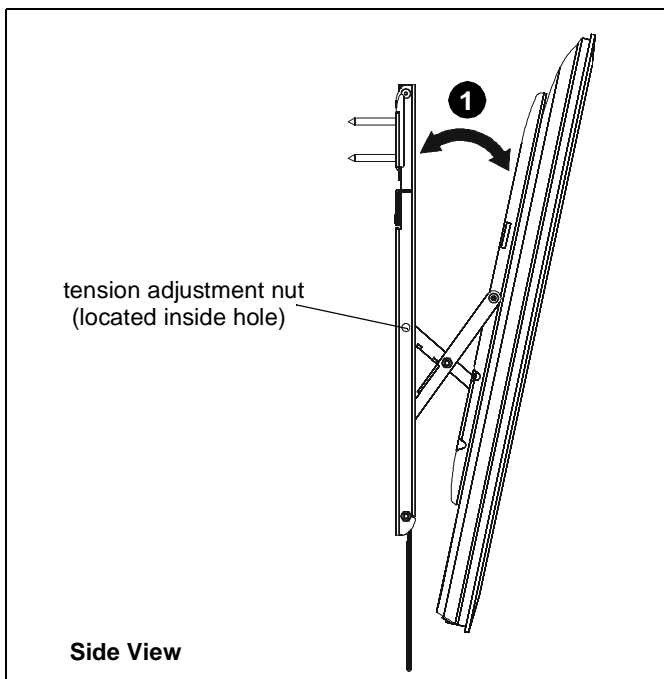

Figure 7
1. Display may be tilted forward by pulling forward on the top of the display as desired. (See Figure 7)
2. Tilt tension is adjustable by using 3/16" hex key (Z) in the tension adjustment nut. (See Figure 7)